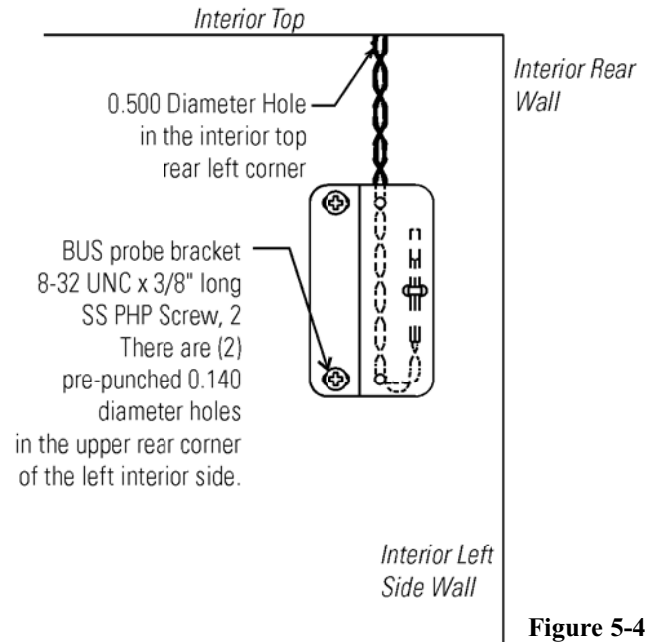

Figure 5-4
1. Locate the 0.500" pre-punched hole in the upper left hand back corner of the chamber ceiling. Remove the tie wrap securing the coiled probe/solenoid harness. Uncoil the probe lead and run the probe tip (approximately 12") down through 0.500" porthole (Figure 5-4).
3. Tap #8-32 the two pre-punched holes located on the interior left wall of the freezer. Mount the bracket. Figure 5-4 shows the Back-Up probe mounted on the interior left side wall of the freezer.